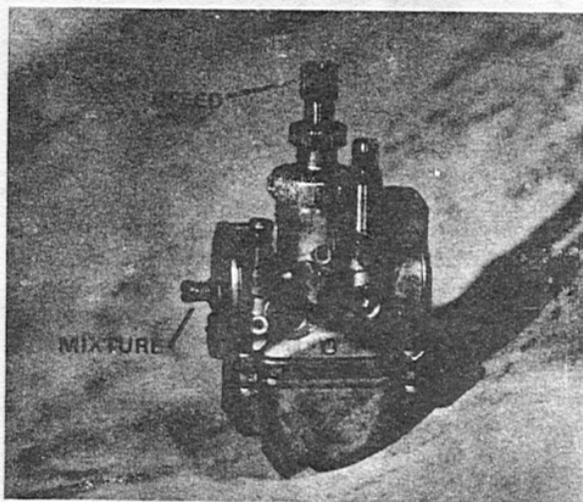

Fig. 33
E. Idle Adjustment – Chibi & Chibi Deluxe (Figure 33)